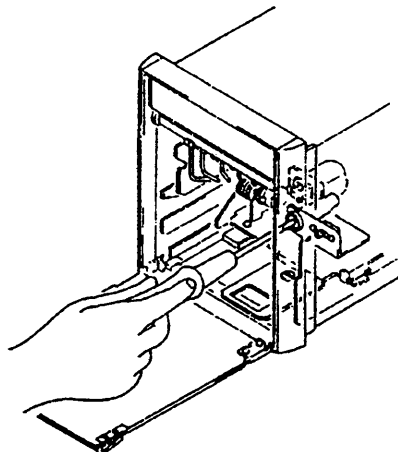

Figure 8.1 Fuse Replacement
- (1) Remove the chart paper compartment (refer to "5.1.1 Loading (Replacing) Chart Paper"). Then it is found that the fuse is mounted (see Figure 8.1).
- (2) Turn the carrier of the fuse holder counterclockwise with a flat-bladed screwdriver, and the holder will slide out with the fuse (see Figure 8.1). Make sure that the rating of the new fuse is correct, and mount the fuse by turning the carrier clockwise.